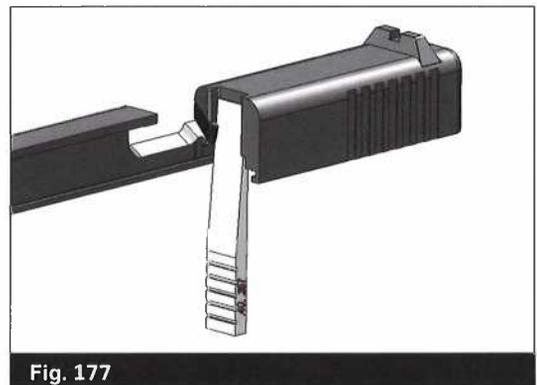

Fig. 177
**“NO GO”** The gauge passes behind the extractor claw but doesn't project from the slide. (Fig. 177)